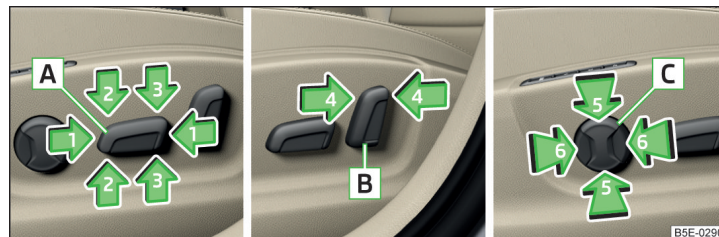

Fig. 67 Control elements at the seat
Control elements at the seat » Fig. 67
- Push the switch **A** in the direction of one of the arrows 1 » Fig. 67.
- Push the switch **A** in the direction of one of the arrows 2 » Fig. 67.
- Push the switch **A** in the direction of one of the arrows 3 » Fig. 67.
- Push the switch **B** in the direction of one of the arrows 4 » Fig. 67.
- Push the switch **C** in the region of one of the arrows 5 » Fig. 67.
- Push the switch **C** in the region of one of the arrows 6 » Fig. 67.